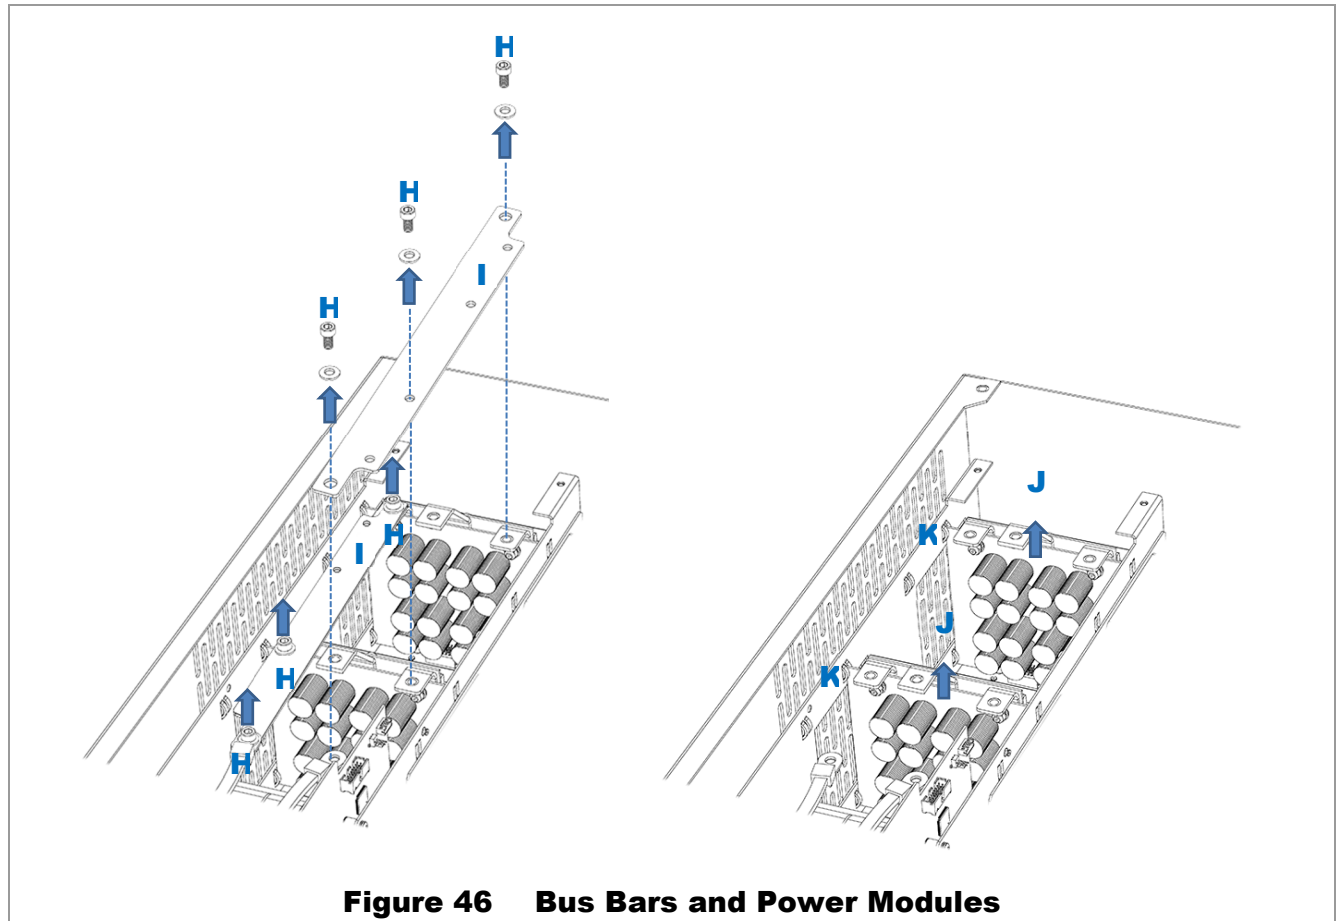

Figure 46 Bus Bars and Power Modules
6. Using a 5 mm hex (Allen) wrench, remove bolts for bus bars. See all items **H** in Figure 46. Remove the two bus bars **I**.
7. Remove the power module to be replaced. Pull upward to unsocket the module. See **J** in Figure 46.
- Insert the power module into its slot. Ensure that the new board is slotted into the card guides **K**. (See Figure 46.) Ensure it is seated firmly.
- Replace bus bars **I**. Replace bolts **H**. Tighten to a torque value of 60 in-lb (6.8 Nm). See Figure 46.